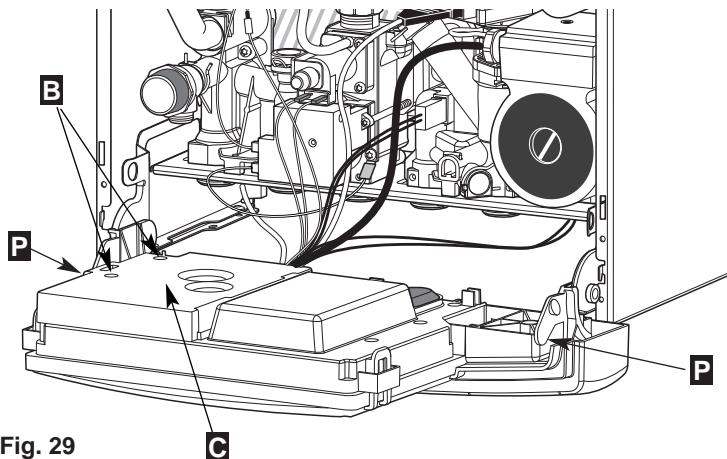

Fig. 29
- Lower the electronic control unit by releasing the side locking pins **P** (Fig. 29), to gain access to the reverse side
- Remove screws **B** and remove cover **C** (Fig. 29).
Switch the power on, remove the casing and open the control unit by pressing the two side locking pins **P** (Fig. 29). The setting buttons are on the circuit board behind the blanking cover **E** (Fig. 30)